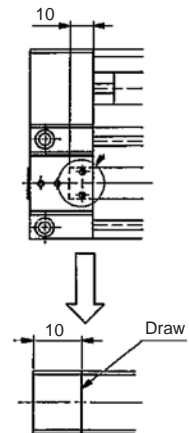

Fig. 2
- The end cover is fixed so that the clearance between the end cover assembly bottom part and the cylinder tube upper surface is about 1 mm. (fig. 2)
- Note 4) Ensure that the magic drawing of additional work to the dust seal band (figure 2) is hidden inside the head cover assembly.